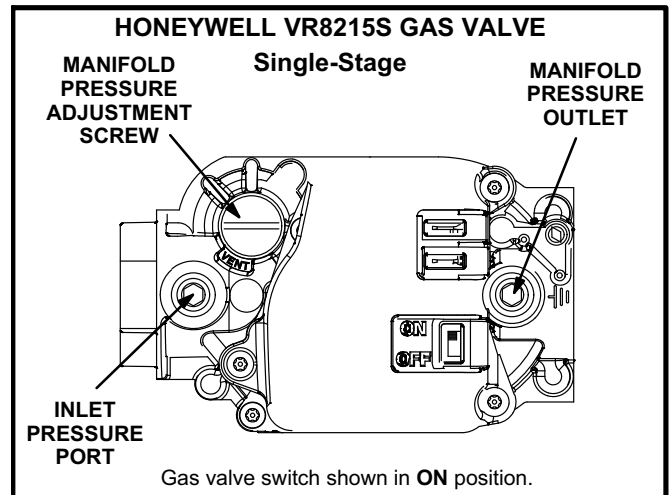

FIGURE 25
Gas Valve Operation (figure 25, 26, or 27)
- 5- Move gas valve switch to **OFF**. See figure 25 or 26.
- 6- Wait five (5) minutes to clear out any gas. If you then smell gas, **STOP!** Immediately call your gas supplier from a neighbor's phone. Follow the gas supplier's instructions. If you do not smell gas, go to the next step.
- 7- Move gas valve switch to **ON**. See figure 25 or 26.